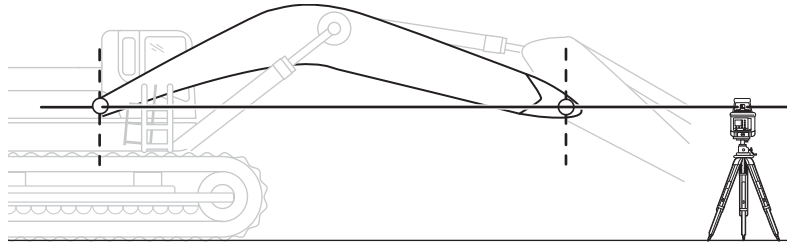

Figure 30: Place Laser to Strike Center of Boom Pivot
2. Adjust the laser height to strike the center of the boom pivot (Figure 30).
3. Move the boom to align the stick pivot with the laser (Figure 30).